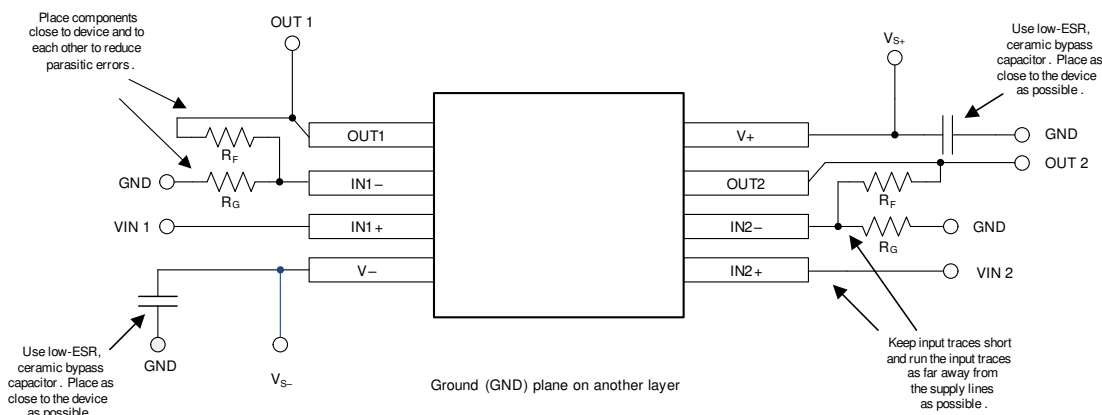

图 39. Layout Example
- Place the external components as close to the device as possible, as shown in Figure 39. Keeping  $R_F$  and  $R_G$  close to the inverting input minimizes parasitic capacitance.